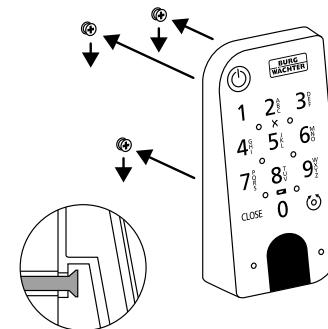

Fig. 4
④ Place the keypad on the screw heads as shown in the illustration (Fig. 4).